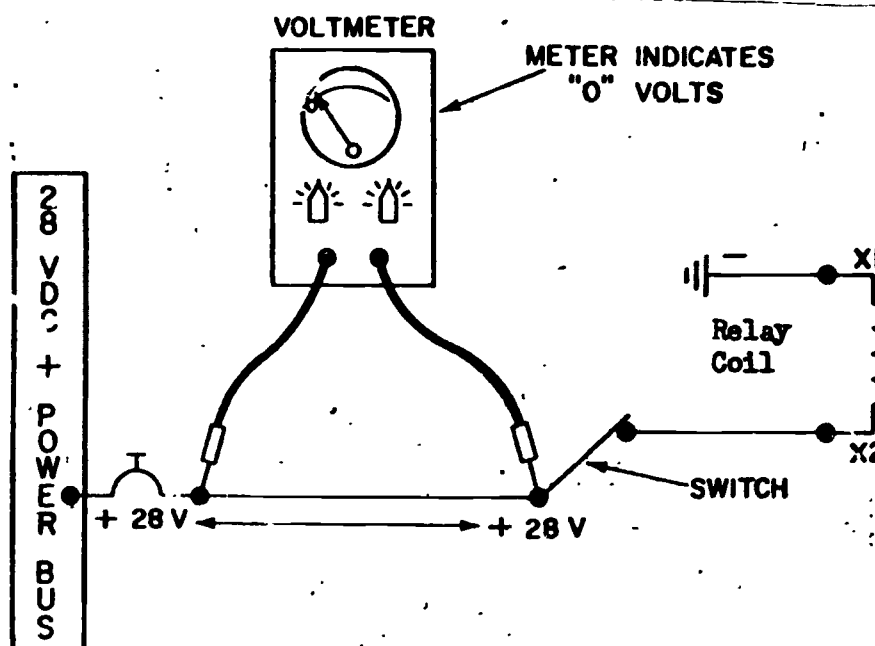

Figure 1.
(1) To better understand what is meant by this, look at figure 1 below and continue reading.
(2) If the voltmeter leads were placed into the circuit as shown in figure 1, the meter would indicate a "0" (zero) voltage reading. The reason is because the wire between the two leads allows the same voltage (pressure) to exist at both ends of it. Because its the same at both ends, the meter cannot measure a difference.
(3) In figure 1 locate the 28V DC bus (+) and note that the wire coming off the bus is merely an extension of the positive power source going through a protective device (CB). Therefore, the wire is as equally positive at the power bus as it is at the pole of the switch.
Note: Because of the reading of zero voltage in figures 1 and 2 these two wires are GOOD circuits WITHOUT opens.